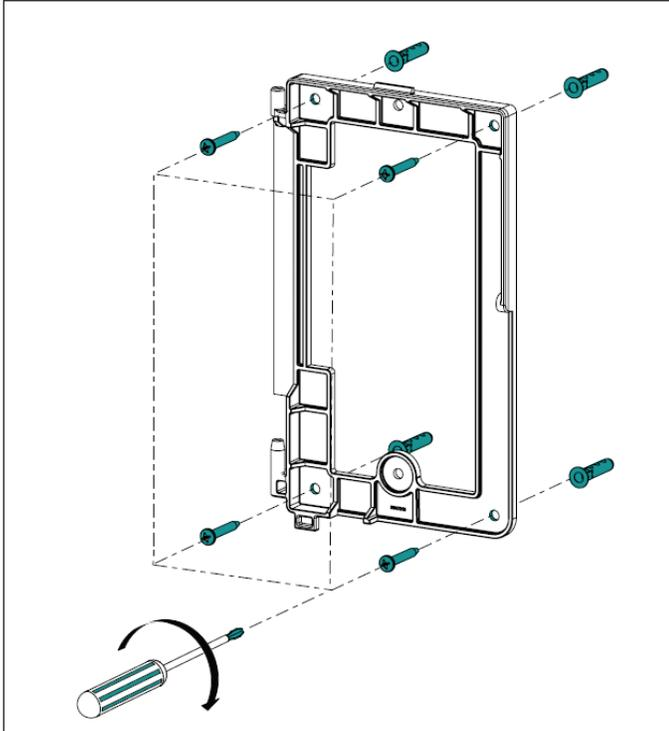

Figure 2. Alternate installation of VersiCharge mounting
4. Alternate installation (Figure 2, Section 2.3) – Drill pilot hole and use the fifth wallboard screw with anchor, screw into the wall.